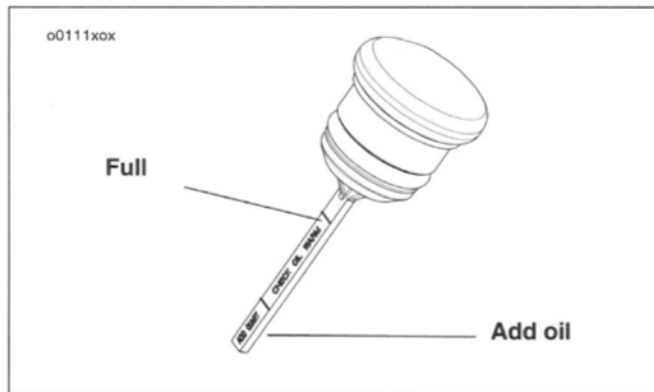

Figure 38. Engine Oil Level
See Figure 38. Engine oil level should be checked *only* when engine is at normal operating temperature. The engine will require a longer warm up period in colder weather.
3. See Figure 38. Remove dipstick and note oil level.